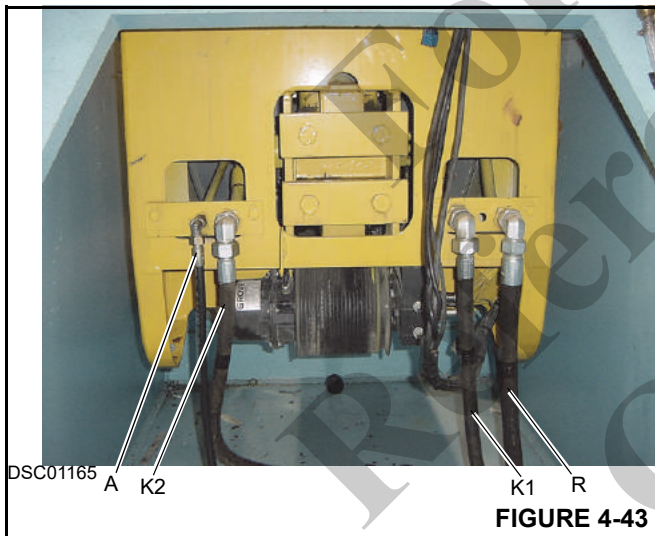

FIGURE 4-43
5. Connect hydraulic/air supply hoses to the A, R, K1, and K2 ports of the rod end valve block (Figure 4-43).